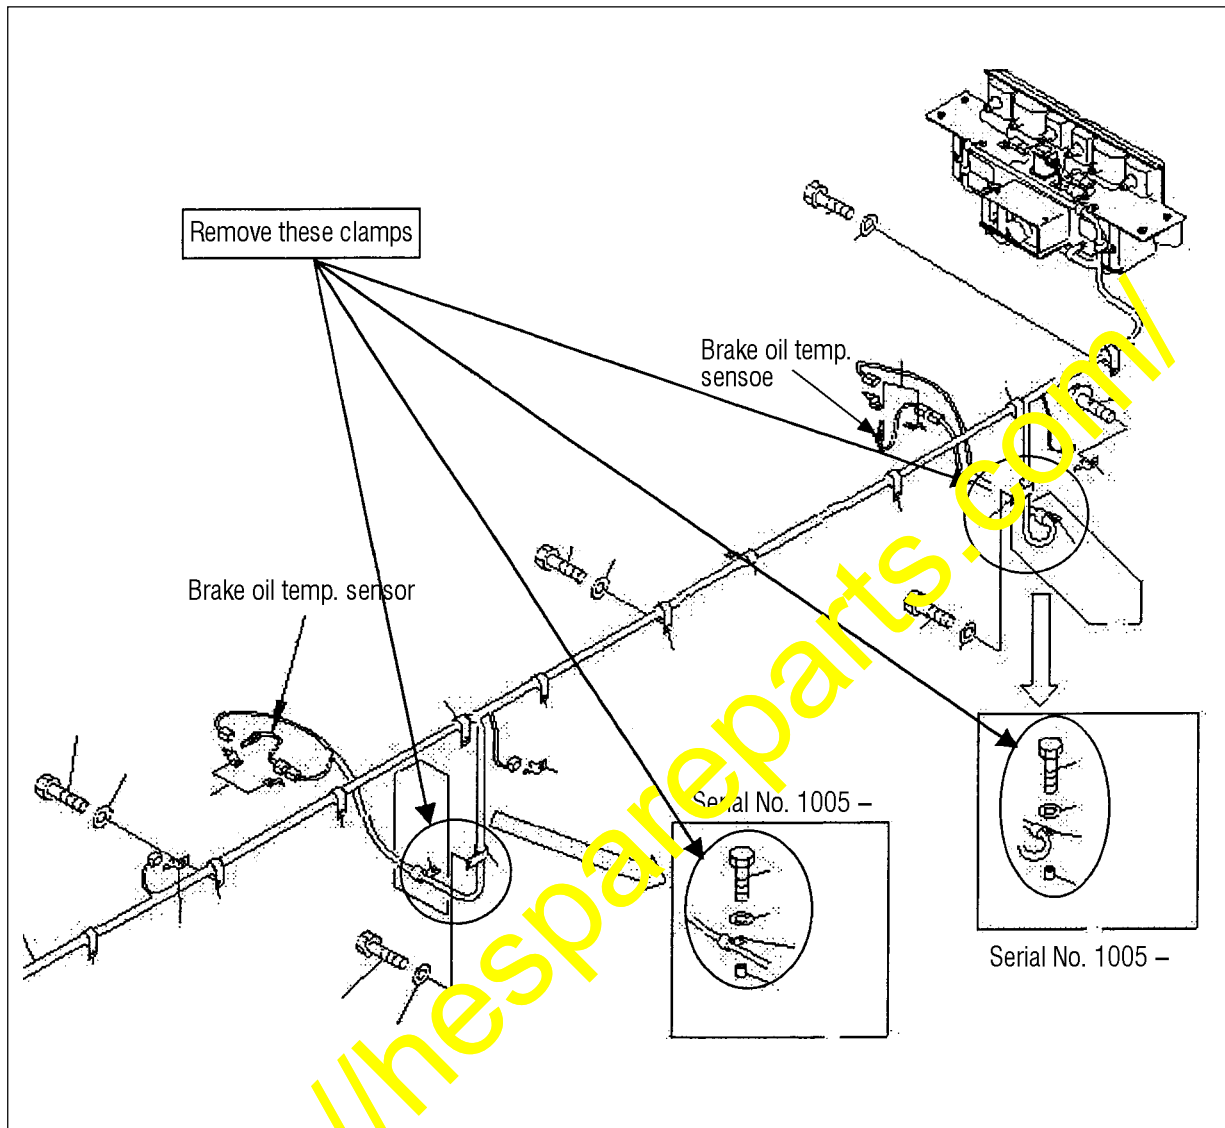

Fig. 5
- 1) Remove the existing clamps. (Refer to Fig. 5.)